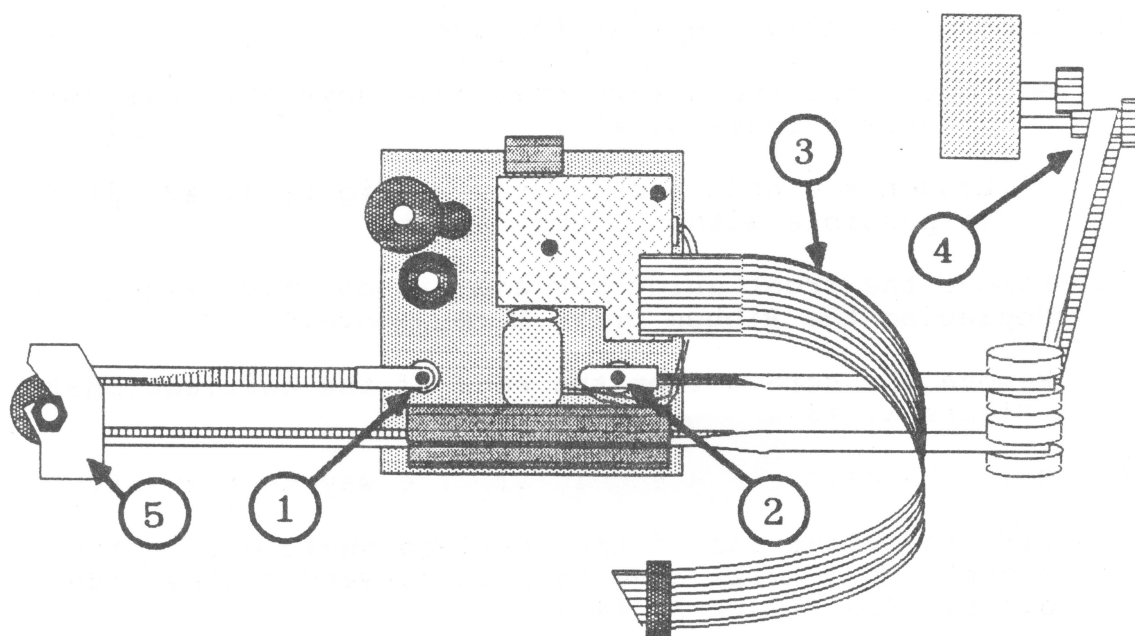

Figure 5
1. Attach either end-piece of the new drive belt to the right-hand mounting hole in the carriage assembly (Figure 5, #2) as follows:
- b) Align the hole near the **midpoint** of the belt end-piece with the right-hand mounting hole in the carriage assembly (see Figure 5, #2).
2. Route the belt as in Figure 5:
- behind the wide plastic cable (Figure 5, #3);
- around the carriage drive pulley (Figure 5, #4);
- and through the left hand pulley bracket (Figure 5, #5) (from which you removed the pulley).
4. Route the loose end of the belt around the pulley, and line up the end-piece of the belt with the left hand mounting hole on the carriage assembly (see Figure 5, #1). (You will have to turn the belt 90° so that the ridges on the belt face toward you and the hole at the **end** of the end-piece lines up with the mounting hole.)